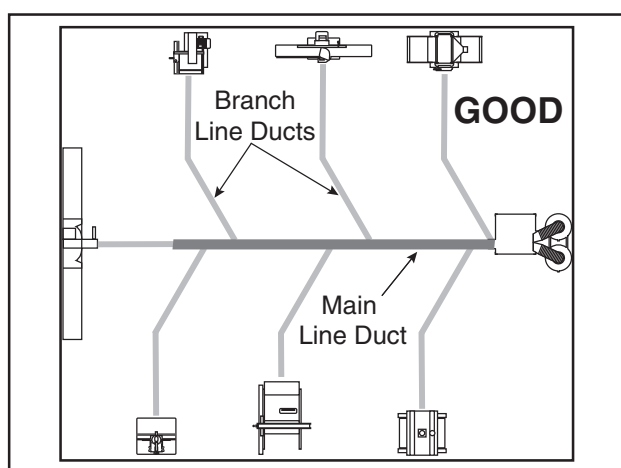

Figure 44. Example of a good duct layout.
2. Ideally, you should design the duct system to have the shortest possible main line and secondary branch ducts. See **Figures 44–45** for ideas of good duct layouts versus bad duct layouts.